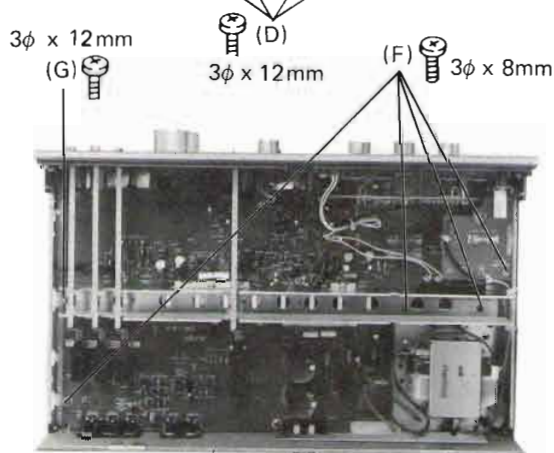

Figure 7
3. Remove four screws (F) ($3\phi \times 8\text{mm}$) and one screw (G) ($3\phi \times 12\text{mm}$) holding the P.C. Board as shown in Figure 7.